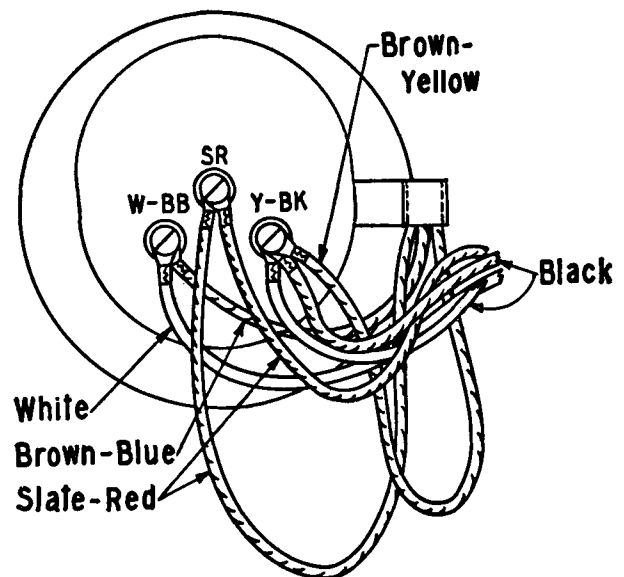

Fig. 1 — 354A Apparatus Blank
1.06 This section is reissued to include information for sets equipped with the 6 type dial, to improve the form of presenting the cording information and to make changes of a minor nature in Figs. 1, 2, 4, and 6.
Note 1: Fig. 1 shows the cording of the apparatus blank of 354A sets. The other manual sets, 356A and 357A, have similar cording except for variations in the number and color of the conductors terminating at the apparatus blank of these sets.